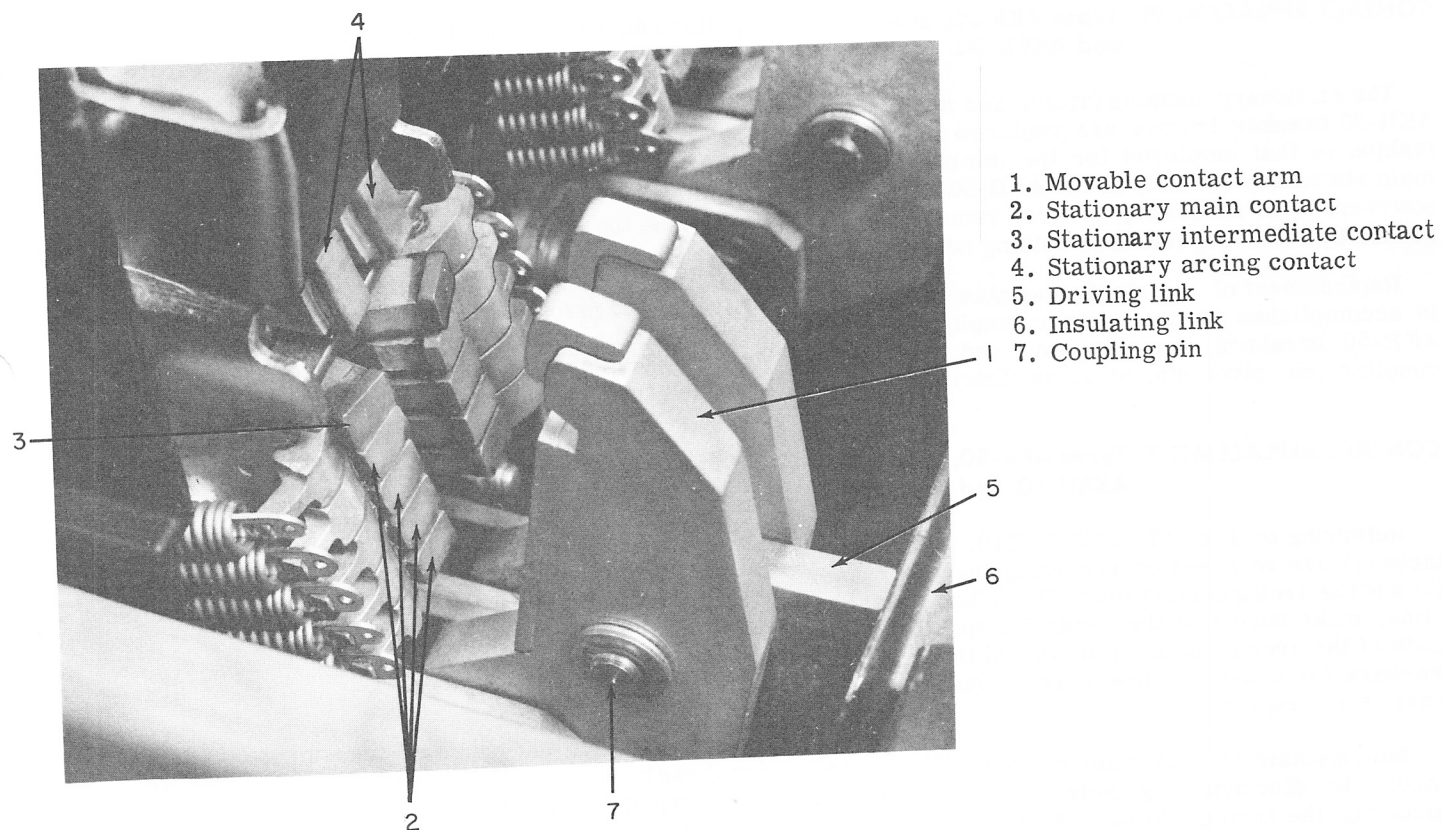

Fig. 8. AKRT-50 contact structure
- b. Stationary main contacts increased from 6 to 8; otherwise the stationary contacts are identical to the AKR-50. See Figs. 8 and 9.
The contact structure of this 2000A breaker is conceptually identical to the 1600A AKR-50 except that it employs eight stationary main contacts instead of six. Constructionally, however, the upper stud assembly, movable contact arms and pivot block are unique to the AKRT-50. See Figs. 8 and 9.